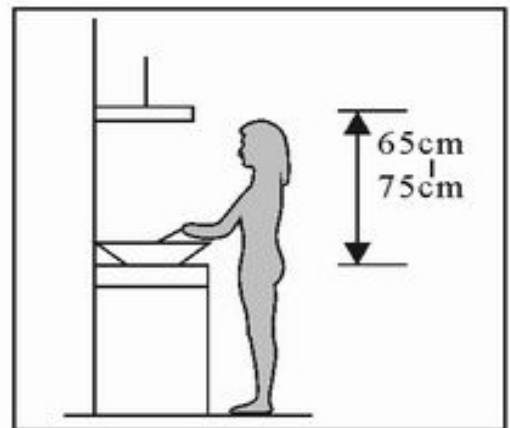

Fig 1
Step 1: The canopy should be placed at a minimum distance of 65cm above the cooking surface when placed above an electric hob and a minimum of 75cm above the cooking surface when placed above a gas cooktop (Fig 1).